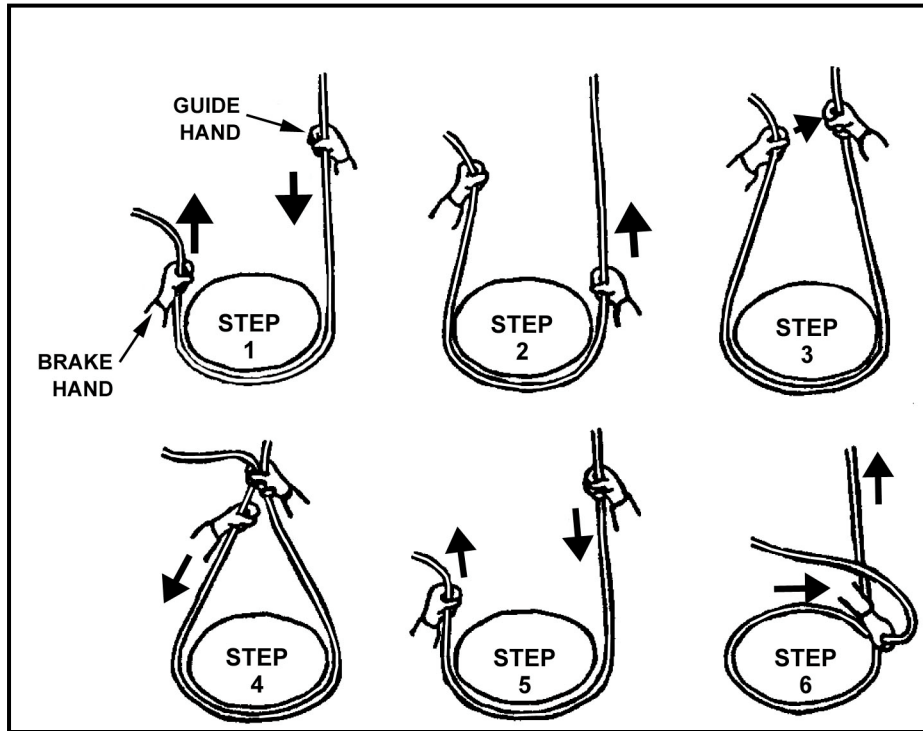

Figure 6-21. Managing the rope.
(1) Grasping the rope with both hands, place it behind the back and around the hips. The hand on the section of rope between the belayer and the climber would be the guide hand. The other hand is the brake hand.
(2) Take in rope with the brake hand until the arm is fully extended. The guide hand can also help to pull in the rope (Figure 6-21, step 1, page 6-34).
(3) Holding the rope in the brake hand, slide the guide hand out, extending the arm so the guide hand is farther away from the body than the brake hand (Figure 6-21, step 2).
(4) Grasp both parts of the rope, to the front of the brake hand, with the guide hand (Figure 6-21, step 3).
(5) Slide the brake hand back towards the body (Figure 6-21, step 4).
(6) Repeat step 5 of Figure 6-21. The brake can be applied at any moment during the procedure. It is applied by wrapping the rope around the front of the hips while increasing grip with the brake hand (Figure 6-21, step 6).